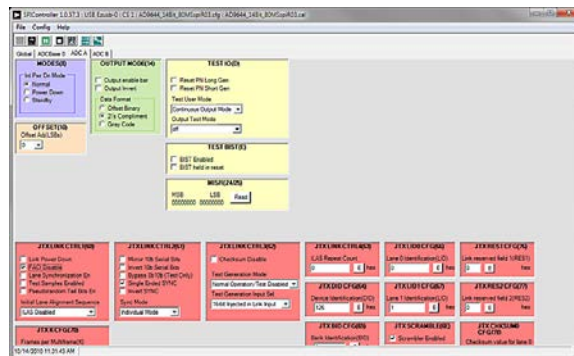

Figure 13. SPI Controller, Example ADC A Tab
7. If Configuration B (two converters, one JESD204A link, two lanes per link) is selected, click the **FACI Disable** check box in the **JTX LINK CTRL1** box (shown in Figure 13) for both Channel A and Channel B (ADC A and ADC B tabs) for the **AD9644**, or for only Channel A (ADC A tab) for the **AD9641**. Changing this selection sets the part to match the expected FPGA input configuration.